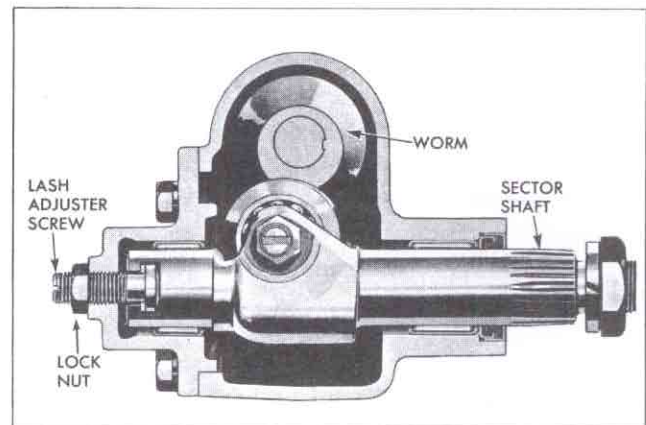

Figure 1
2. Loosen the lock nut on the sector shaft (fig. 1), then turn the lash adjuster a few turns counterclockwise. This will remove the load from the bearings caused by the close meshing of the worm and the sector teeth.
8. Remove the lock nut from the lash adjuster and screw the lash adjuster through the side cover. Slide the lash adjuster out of slot in the end of the sector shaft (Fig. 1).